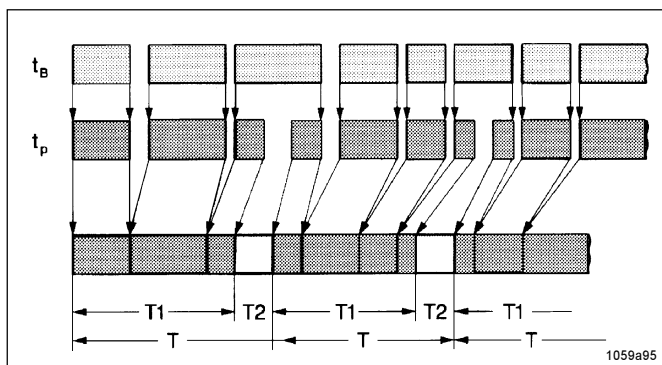
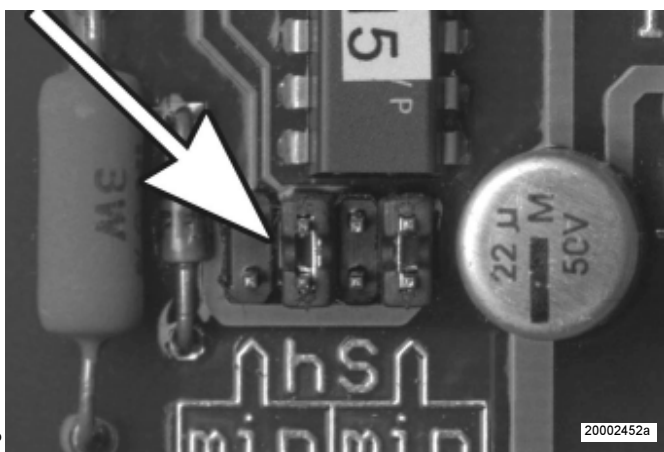

Fig. 22 -Time sequence diagram
Fig. 25 - Preselection of the time range
- The printed circuit board automatically controls the sequence of the pause and operating times of the model 203 central lubrication pump as a function of the vehicle or machine working hours t_B , see fig.22.
- When the machine contact or the driving switch is switched off, the pause times which have already elapsed are stored and added up (refer to T1, Fig.22) until the time which has been set on the blue rotary switch (Fig.25) is reached.
Note : To reset a jumper (see fig 25 or 27), remove the printed circuit board .
- The time ranges can be modified by replugging the jumper (Fig.25) on the printed circuit board.